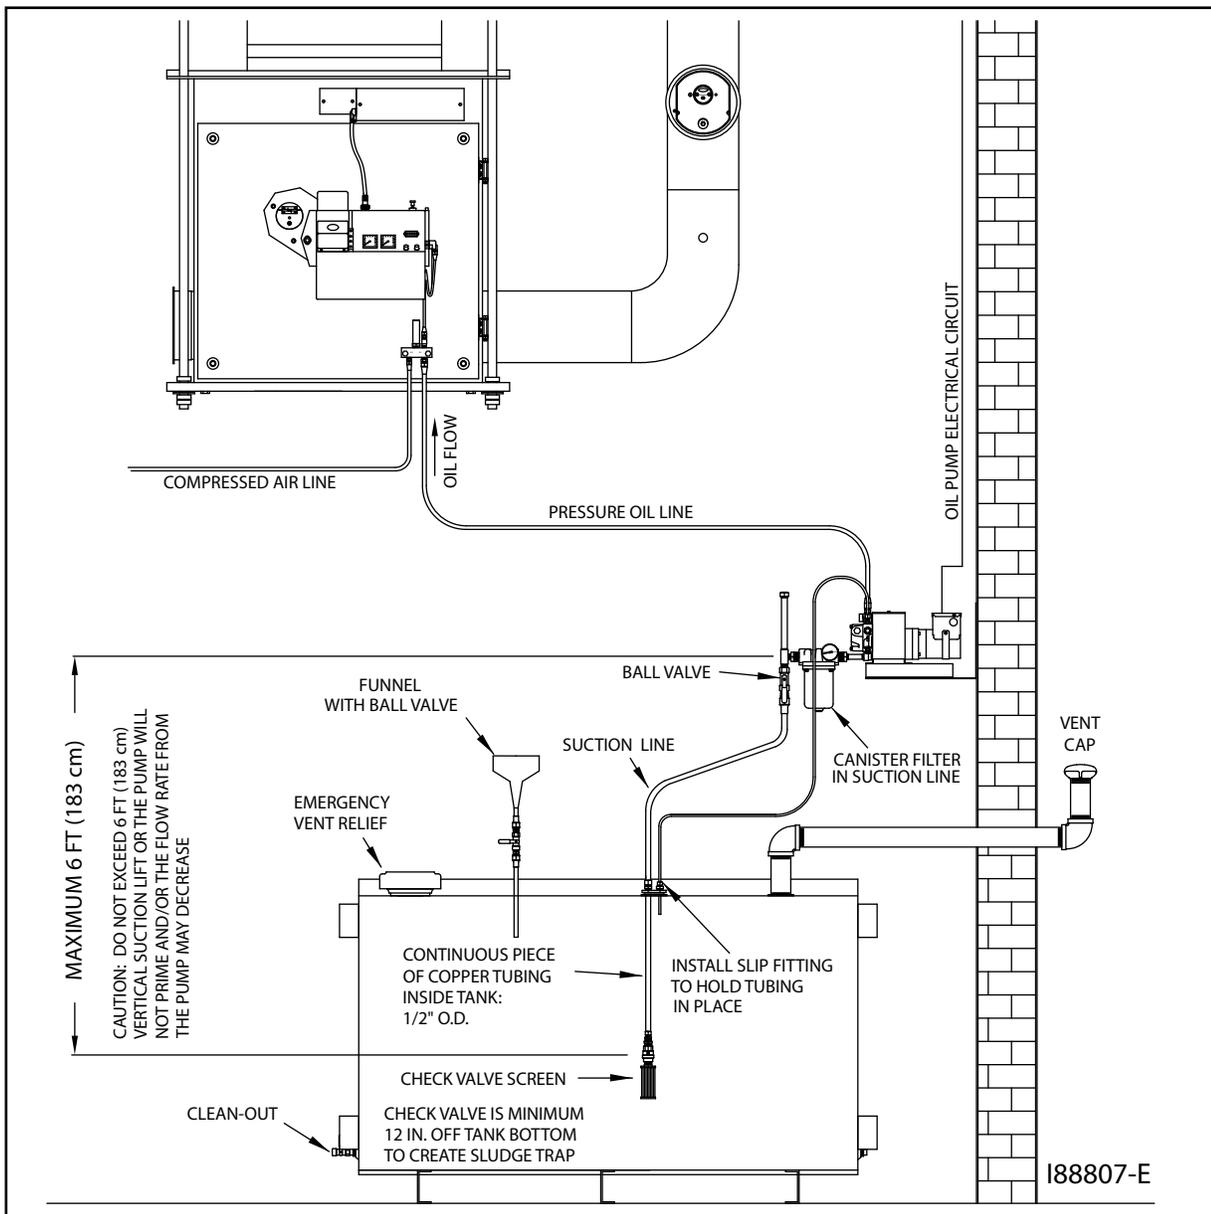

Figure 4J - Oil Line Installation Overview
- u. Install a vent from the tank to the outside of the building according to code. The tank must be properly vented to allow air to enter the tank as oil is pumped out and to safely vent fumes to the outside. See Figures 4J.
4. Install 1/4" O.D. copper tubing (user-supplied) from the pressure relief port back to the oil tank. Refer to Figure 4J as needed.